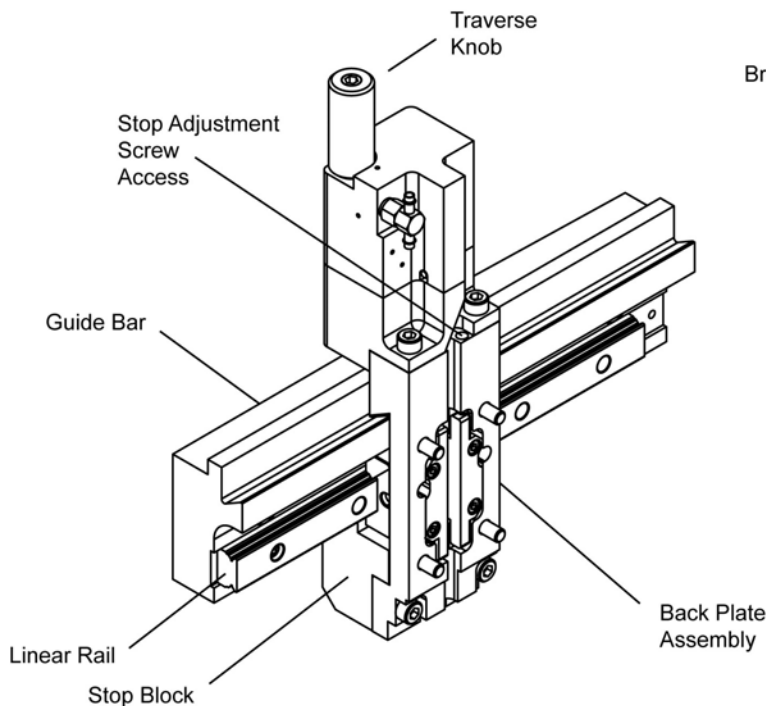

Fig. 1
8. Adjust knifeholder to guidebar (Fig.1).